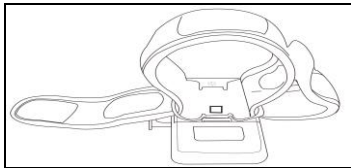

Fig.3-5
- (3) Thread the other terminal of the band through the other hole of the bracket, refer to Fig.3-5.